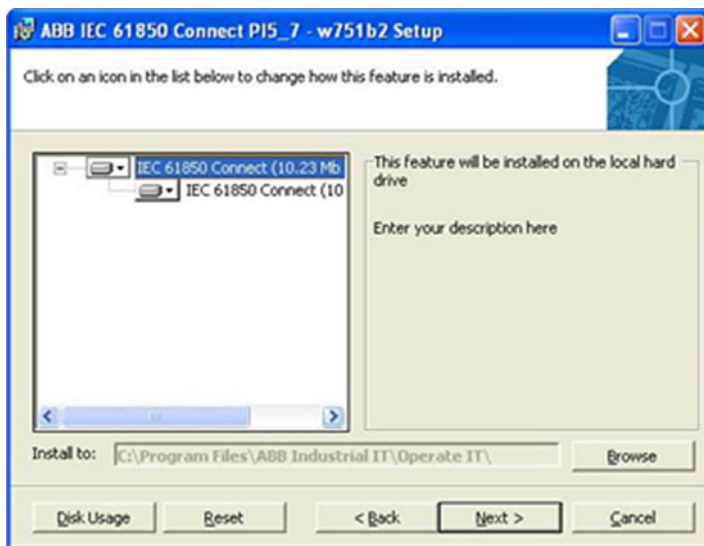

Figure 44. Select Features Dialog Box (Retain Default Root Features)
- a. **Select Features dialog box (Figure 44):** Retain the default root feature selection. Retain the default path in the Install to text box (recommended), or click **Browse** and select the desired install folder.